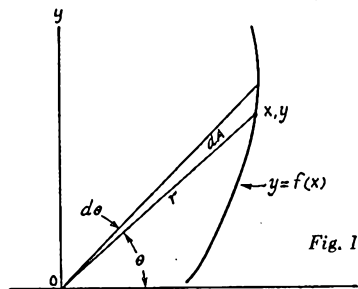

Fig. 1
Upon referring to Fig. 1 we may recall from calculus an expression for the increment in area as  $dA$ .
Equation (8) is valid for the curve of Fig. 1 as it is for any curve with  $y$  expressed as a function of  $x$ . We are now ready to consider the two special cases where the curve has the forms of the unit circle or the unit rectangular hyperbola.